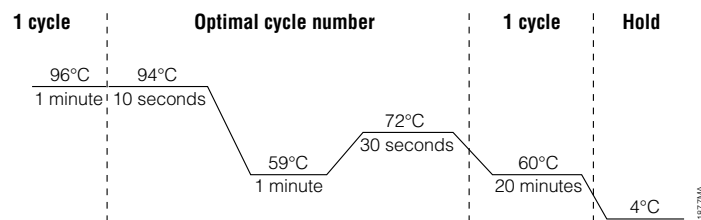

Figure 30. Thermal cycling protocol for the GeneAmp® PCR System 9700 and ProFlex® PCR System.
2. Select and run the recommended protocol, which is provided below and in Figure 30.